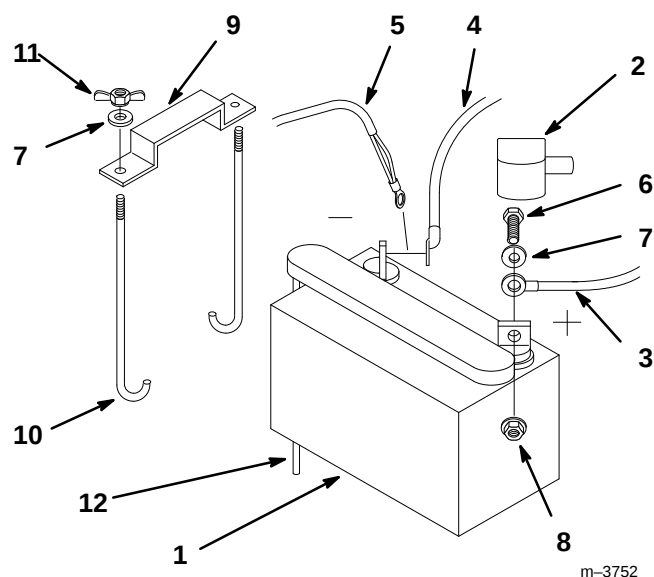

Figure 7
- Position battery in tray with terminal posts toward the engine (Fig. 7).
- Secure cables with (2) 1/4 x 3/4" (19 mm) bolts 1/4" washers and 1/4" locknuts (Fig. 7).
- Secure battery with J-bolts, hold down clamp and (2) 1/4" washers and (2) 1/4" wing nuts (Fig. 7). Do not over tighten.